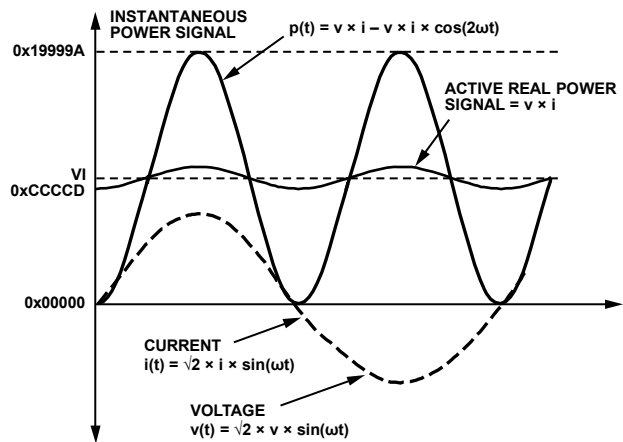

Figure 64. Active Power Calculation
Note that the active power is equal to the dc component of the instantaneous power signal  $p(t)$  in Equation 11, that is,  $VI$ . This is the relationship used to calculate active power in the ADE7116/ADE7156/ADE7166/ADE7169/ADE7566/ADE7569. The instantaneous power signal  $p(t)$  is generated by multiplying the current and voltage signals. The dc component of the instantaneous power signal is then extracted by LPF2 (low-pass filter) to obtain the active power information. This process is illustrated in Figure 64.
The ADE7116/ADE7156/ADE7166/ADE7169/ADE7566/ADE7569 also incorporate an active power offset register (WATTOS[15:0], Address 0x20). It is a signed, twos complement, 16-bit register that can be used to remove offsets in the active power calculation (see Figure 64). An offset can exist in the power calculation due to crosstalk between channels on the PCB or in the IC itself. The offset calibration allows the contents of the active power register to be maintained at 0 when no power is being consumed.
As mentioned in the Active Energy Calculation section, the discrete time sample period (T) for the accumulation register is 1.22 μs (5/MCLK). With full-scale sinusoidal signals on the analog inputs and the WGAIN register (Address 0x1D) set to 0x000, the average word value from each LPF2 is 0xCCCCD (see Figure 64). The maximum positive value that can be stored in the internal 49-bit register is 248 (or 0xFFFF,FFFF,FFFF) before it overflows. The integration time under these conditions when WDIV = 0 is calculated in the following equation: